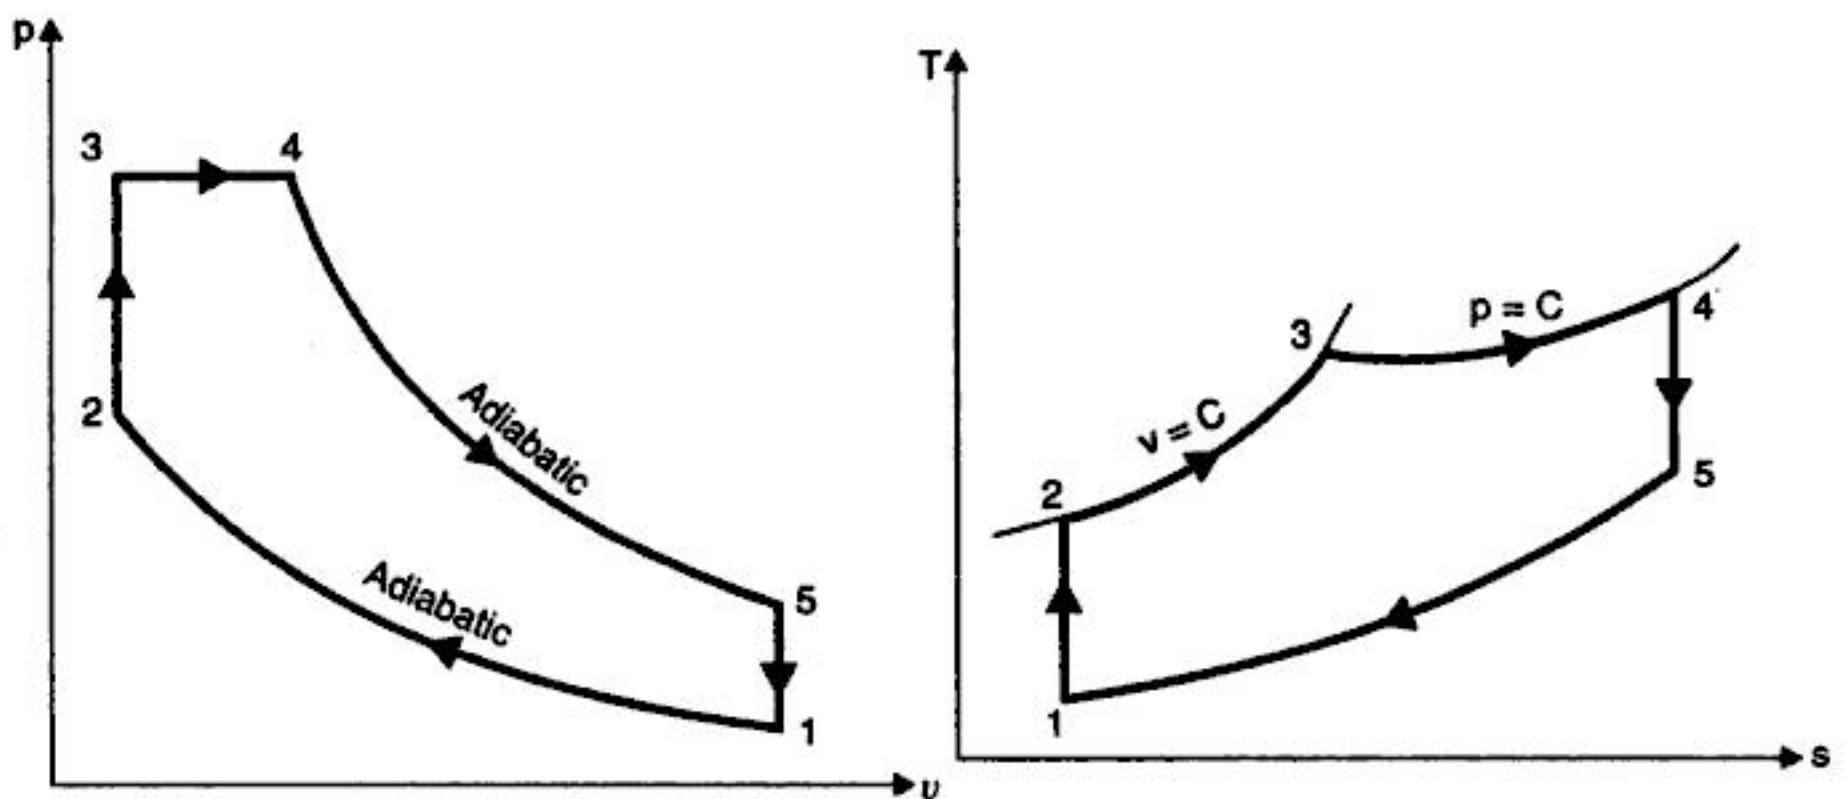

Fig. 3.19
The dual combustion cycle (Fig. 3.19) consists of the following **operations** :
**Solution.** Refer Fig. 3.19.